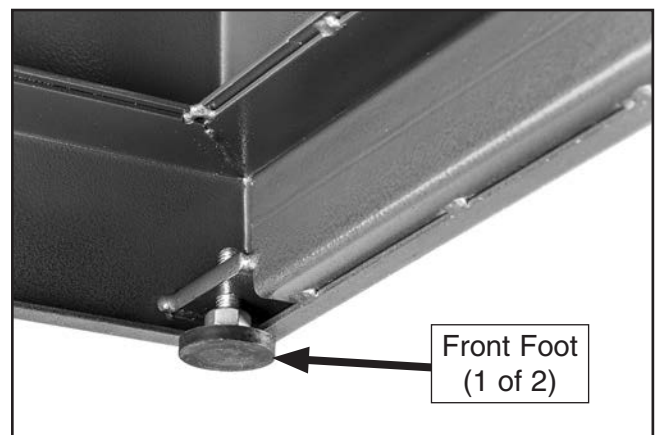

Figure 14. Front feet installed with machine elevated by forklift.
3. Install both front feet (see **Figure 14**).